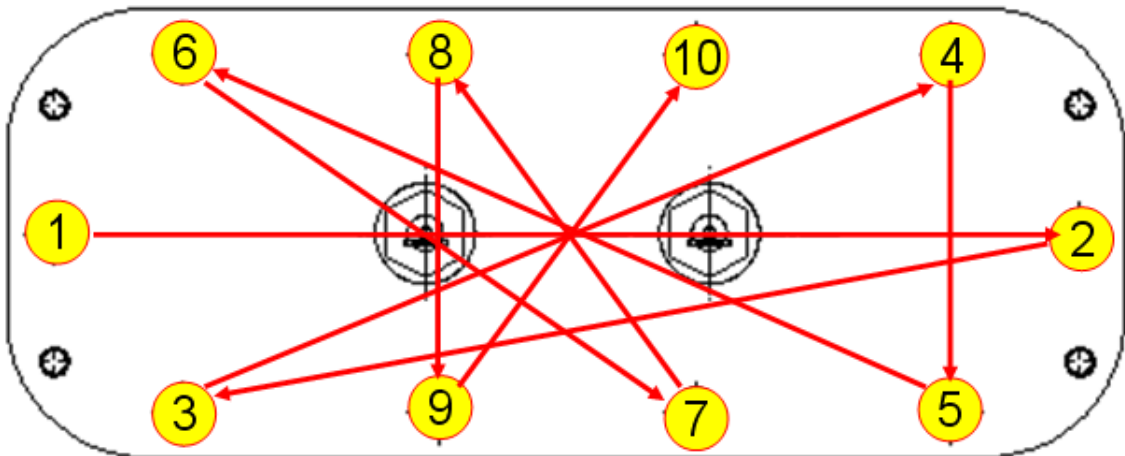

Figure 9 – Cover Plate Torque Sequence
11. Using the 10 M8x25 screws, install the Cover Plate. Finger-tighten and then, according to Figure 9 (Cover Plate Torque Sequence), tighten in a crisscross pattern in two (2) stages.